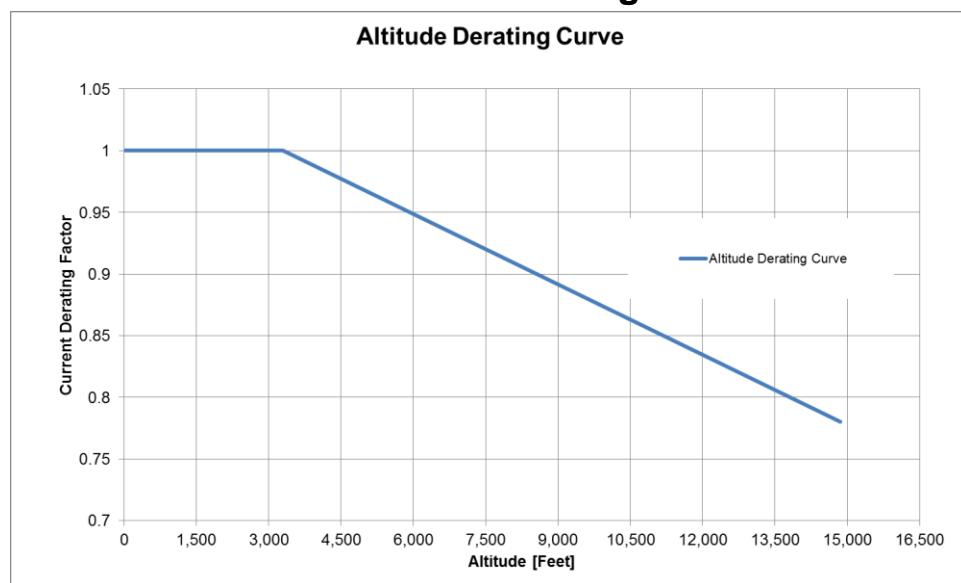

Figure 3-4: Altitude Derating Curve
- Altitude:** 3,300 feet above sea level without derating. See Figure 3-4: Altitude Derating Curve (p13) for derating curve.